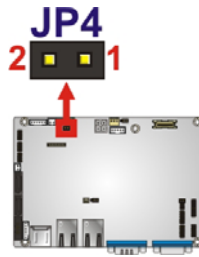

Figure 4-5: AT/ATX Power Mode Setting Jumper Location
- Jumper Location:** See Figure 4-5